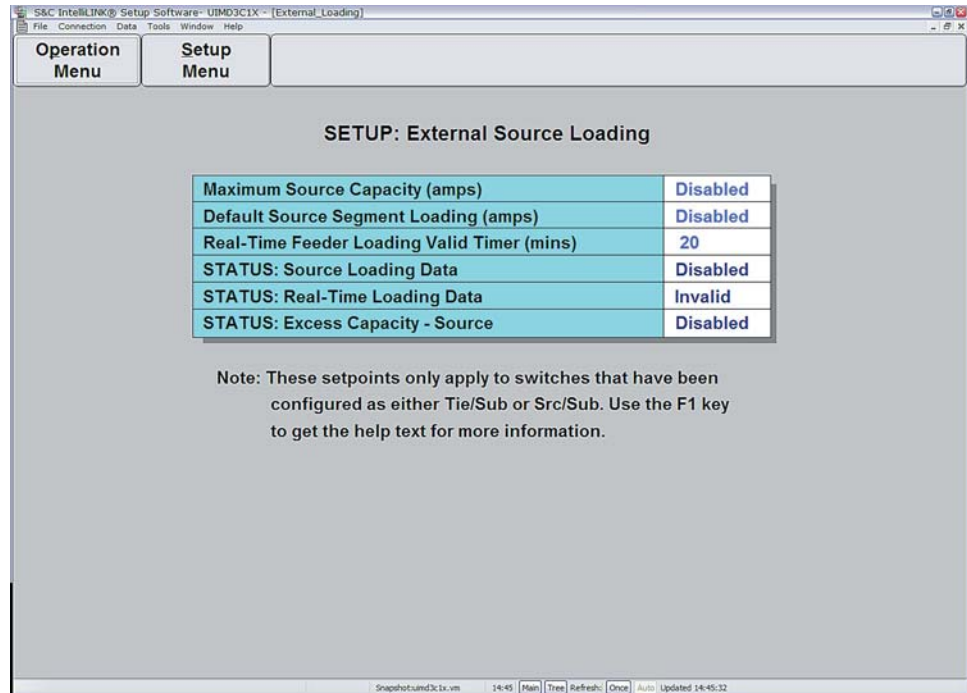

Figure 22. External Source Loading Setup Screen for the Universal Interface Module.
23. From the **PRESENT CONDITIONS** screen click the **Team Menu** button, click the **Setup Menu** button, and click the **External Loading** button to display the **External Source Loading Setup** screen (Figure 22). Enter the correct values for the Interface Module.